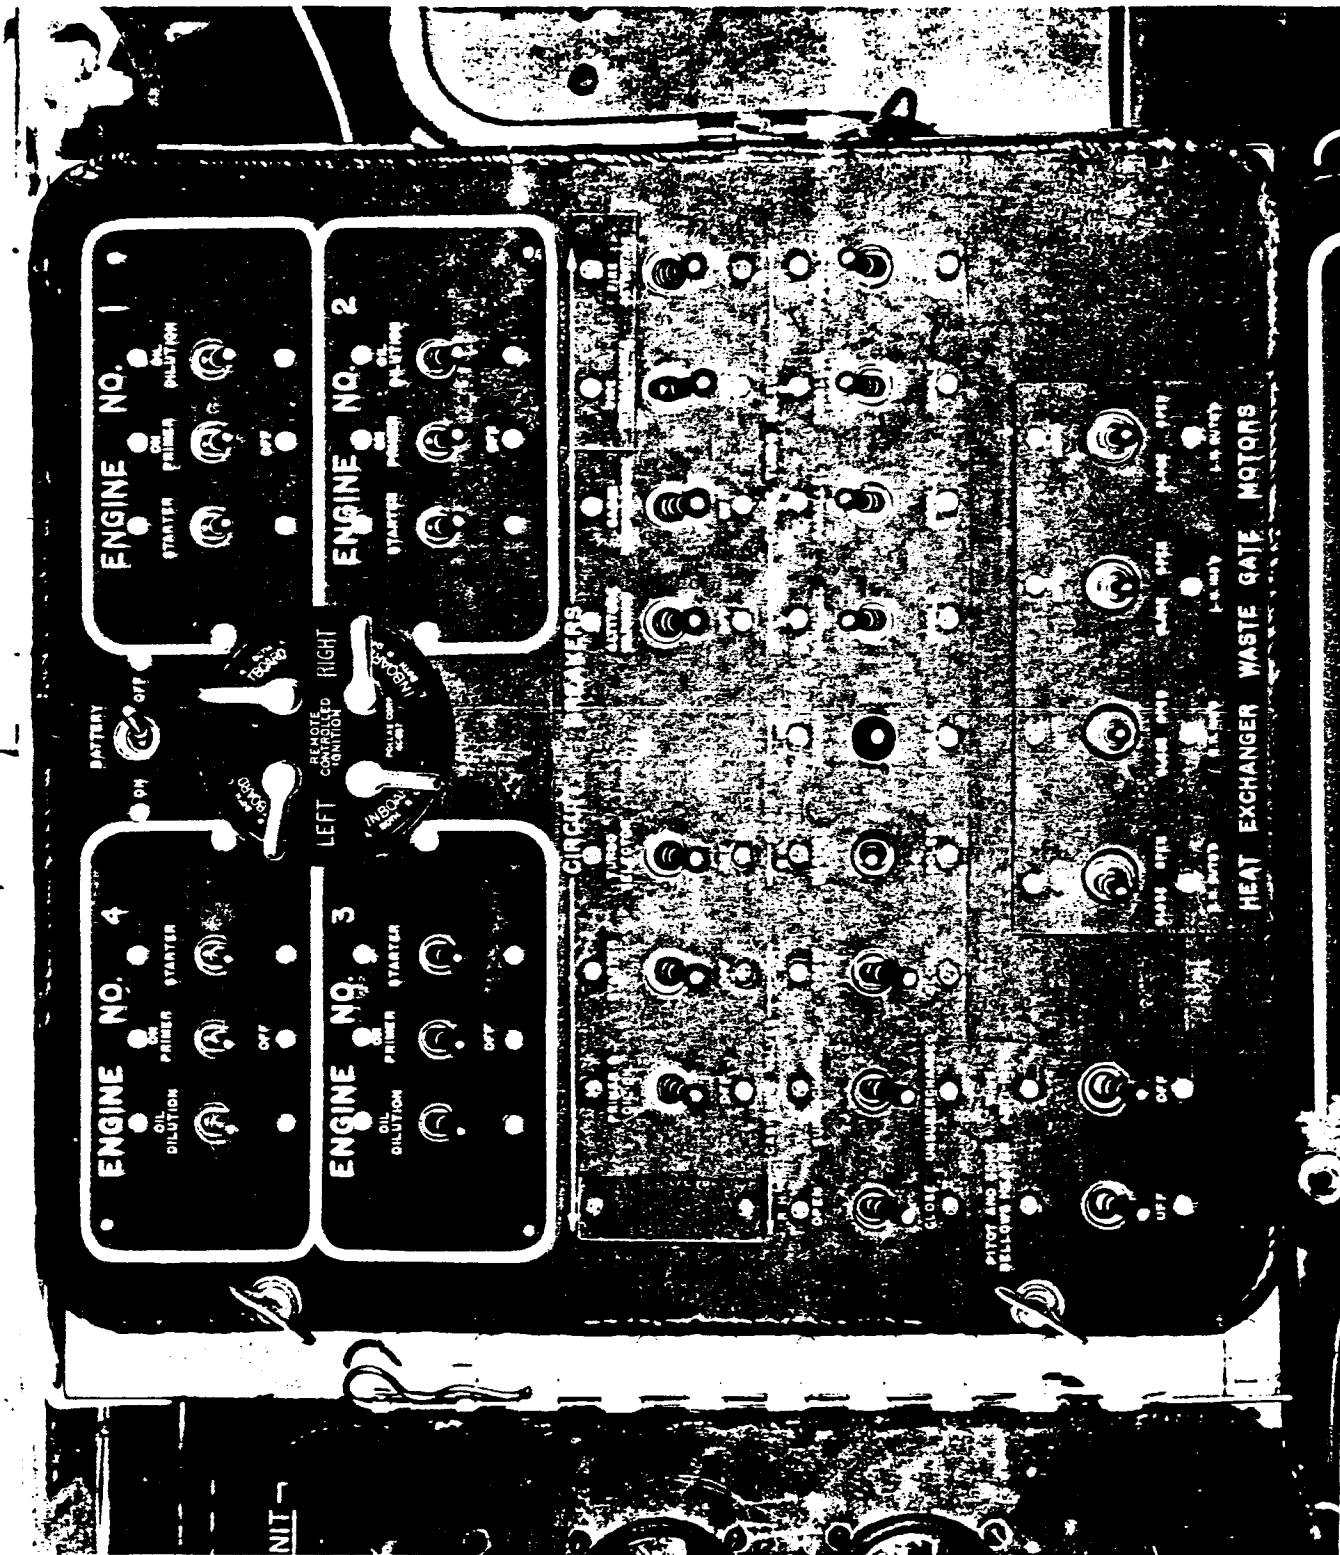

Figure 17. Engineer's Upper Electrical Control Panel
g. ENGINE TURBO SELECTOR SWITCHES.- These four switches are located on the engineer's upper control panel. (See figure 17.) In the "PARALLEL" position all turbos operate and in the "SINGLE" position one of each pair of turbos is rendered inoperative. The "SINGLE" position is used to correct turbo pulsation or collapse. Normally the switches are kept in the "PARALLEL" position.
m. HEAT EXCHANGER WASTE GATE MOTOR SWITCHES. (See figure 17.)- These switches are used to control the temperatures of the exhaust gases to the turbosuperchargers. Normally for ground operations the switches are held to the "OPEN" position to open the waste gates and in flight they are placed on "AUTOMATIC." Manual control is accomplished by holding the switches to the "OPEN" or "CLOSE" position momentarily and then returning the switches to the center (off) position. The center position being off, the waste gates will remain in the po-
n. OIL DILUTION SWITCHES.- These switches, figure 17, have two positions; "OFF" and momentary "ON." In the "ON" position diluted oil is diverted into the oil tank hoppers rather than throughout the oil tanks. In the "OFF" position engine oil is automatically diverted directly to the hopper as required by the oil temperature.
o. PRIMER SWITCHES.- A primer switch, spring loaded to the "OFF" position, is provided for each engine. (See figure 17.)
p. IGNITION SWITCHES.- Individual ignition switches with provisions for checking both the left and right hand magnetos of each engine are located on the engineer's upper control panel. (See figure 17.) An emergency switch is installed on the pilot's pedestal that will cut the ignition for all four engines when it is pulled out. (See figure 7.)
q. STARTER SWITCHES.- Switches for direct cranking starters are located on the engineer's upper control panel, figure 17. The switches are spring loaded to the "OFF" position.